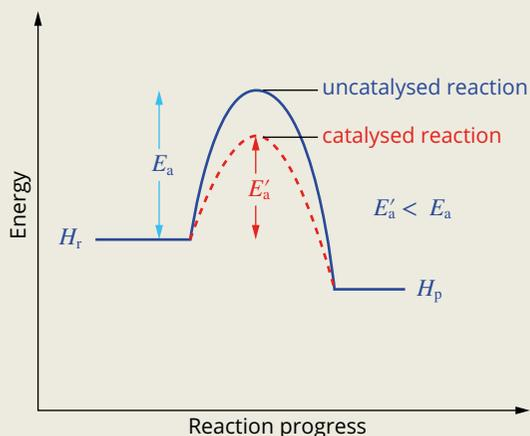

FIGURE 17.4.14 Energy profile diagram of a reaction showing the effect of a catalyst
- Energy profile diagrams (Figure 17.4.14), which can include catalysed and uncatalysed pathways, may be used to represent the enthalpy changes and activation energy associated with a chemical reaction.